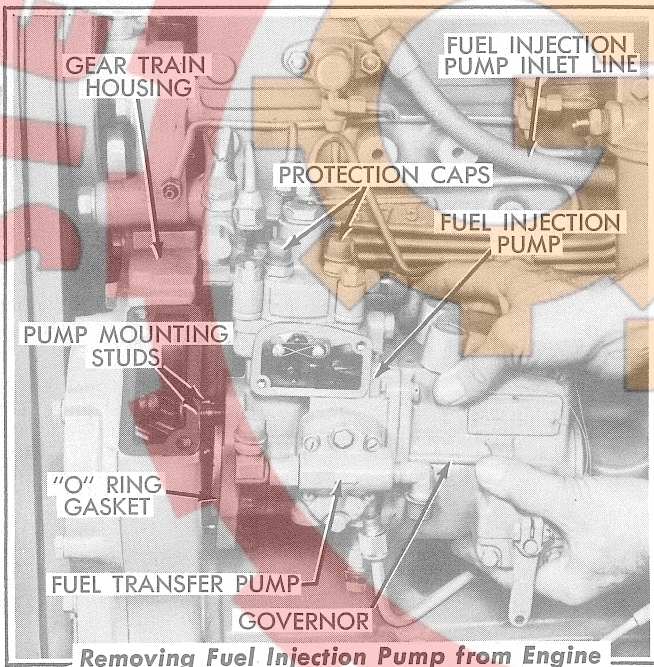

FIG. 24
- j. Remove the three (3) pump mounting stud nuts and lockwashers. Remove the fuel injection pump and governor as a unit as shown in Fig. 24.